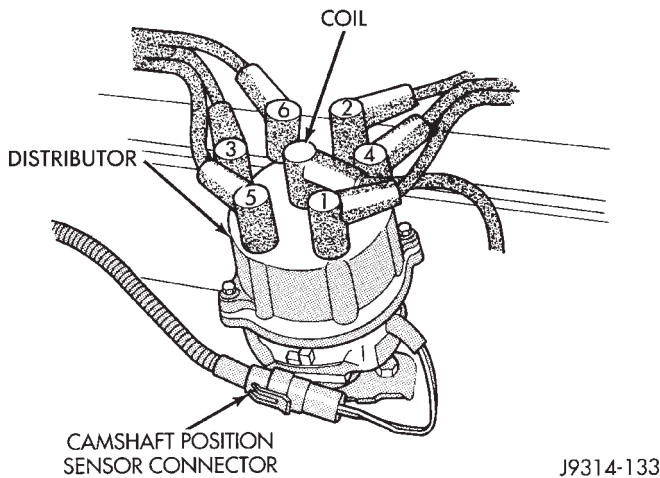

Fig. 38 Distributor and Wiring—4.0L Engine
- (5) Verify that distributor cap is correctly attached to distributor. Be sure that spark plug cables are firmly connected to the distributor cap and the spark plugs are in their correct firing order (Fig. 38). Be sure that coil cable is firmly connected to distributor cap and coil. Be sure that camshaft position sensor wire connector (at the distributor) is firmly connected to harness connector. Inspect spark plug condition. Refer to Group 8D, Ignition. Connect vehicle to an